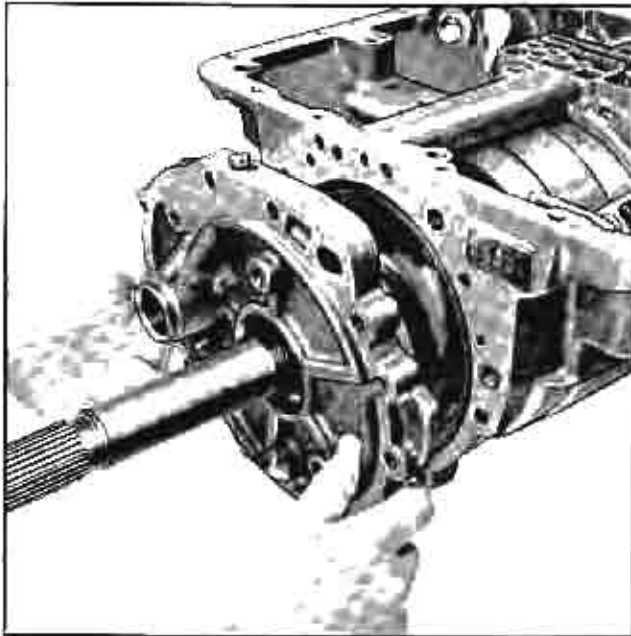
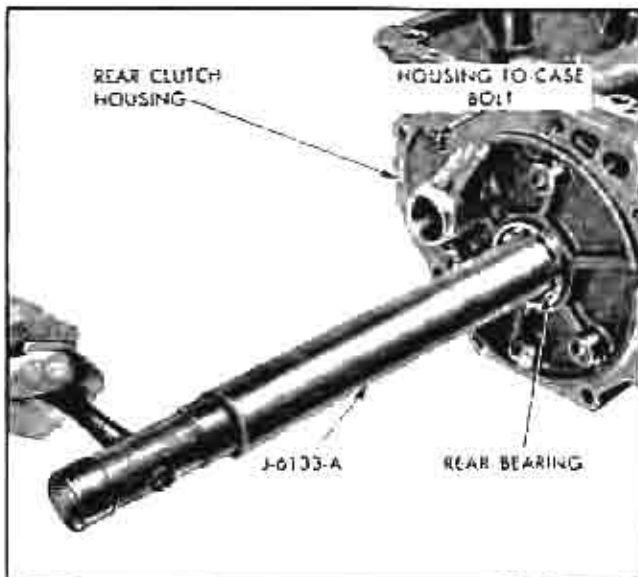
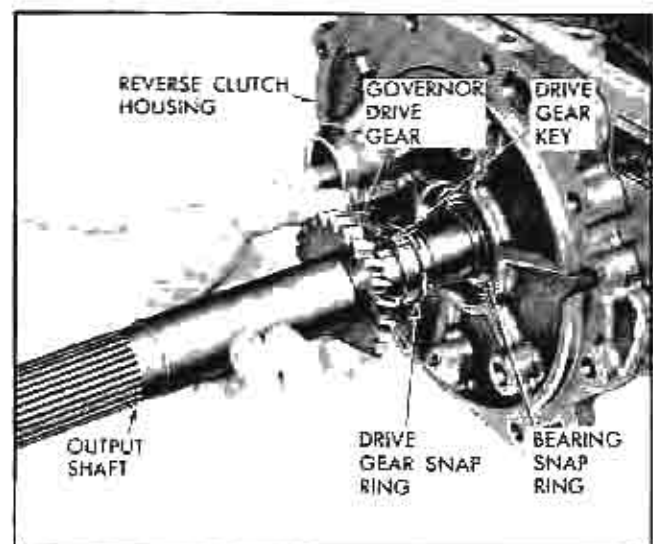

Fig. 153 Installing Reverse Clutch Housing
Fig. 154 Installing Rear Bearing
Fig. 156 Installing Governor Drive Gear
9. Slide housing over end of output shaft (Fig. 153) and secure to transmission case with one bolt as shown in Fig. 154.
bearing installer J-6133-A (Fig. 154) until the snap ring groove on output shaft can be seen behind the rear bearing. If bearing is a slip fit on output shaft, slide snap ring over shaft against bearing, pull shaft rearward and push snap ring into groove (Fig. 156); however, if snap ring will not seat in groove, rotate unit to position output shaft down, then drive snap ring into place with installer J-6133-A.
18. Slide governor drive gear on output shaft, locating slot in gear over key (Fig. 156)